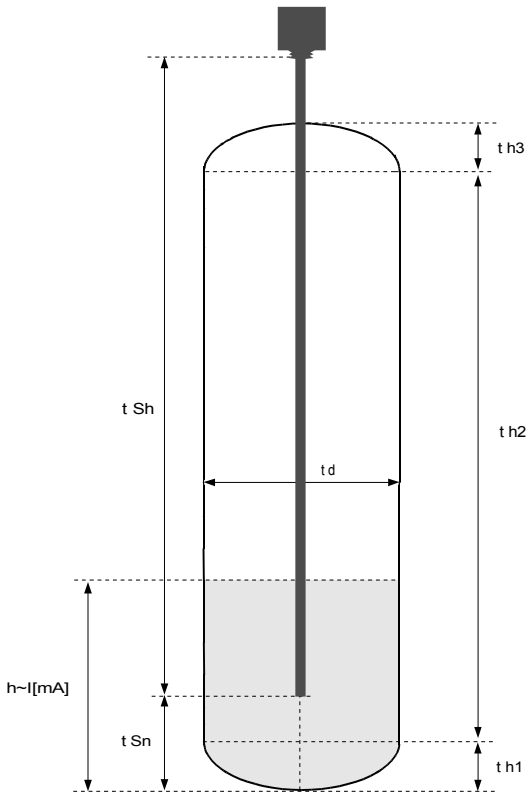
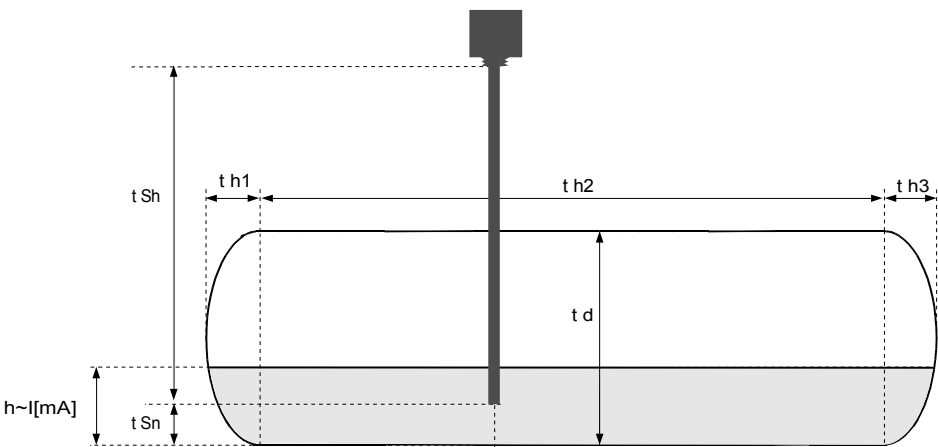

Figure 7.1 Parameters of cylindrical tank in vertical position.
Figure 7.2 Parameters of cylindrical tank in horizontal position.
„**t h1**“, „**t h2**“, „**t h3**“, „**t d**" - the parameters defining shape of cylindrical tank (Figure 7.1 and Figure 7.2).
- „t Sn”, „t Sh” - parameters defining the length and position of the sensor used to measure level of liquids, gases or solids in the tank (Figure 7.1, 7.2).